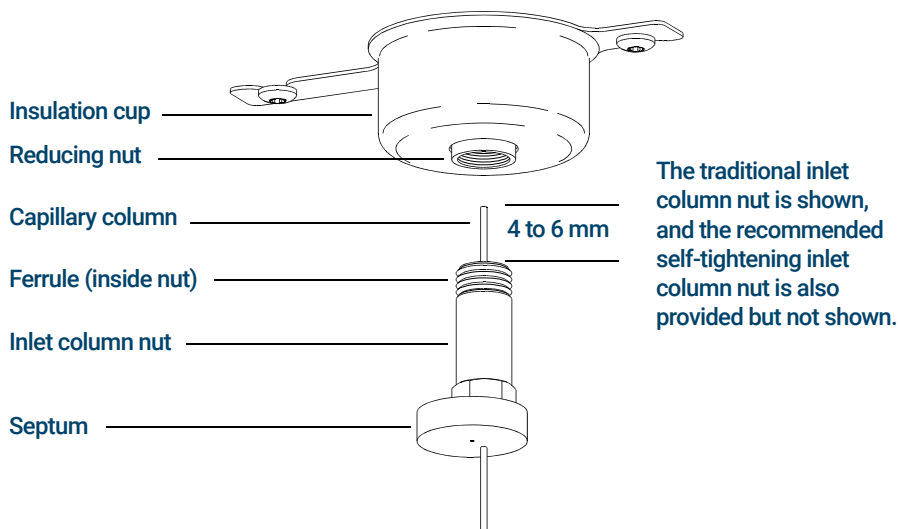

Figure 3. Installing a capillary column for a split/splitless inlet
- 7 Position the septum under the column nut so that the column extends 4 to 6 mm past the end of the ferrule. (See **Figure 3** on page 38.)
For the standard column nut, (shown in Figure 3) tighten the nut an additional 1/4 to 1/2 turn. The column should not slide with a gentle tug.